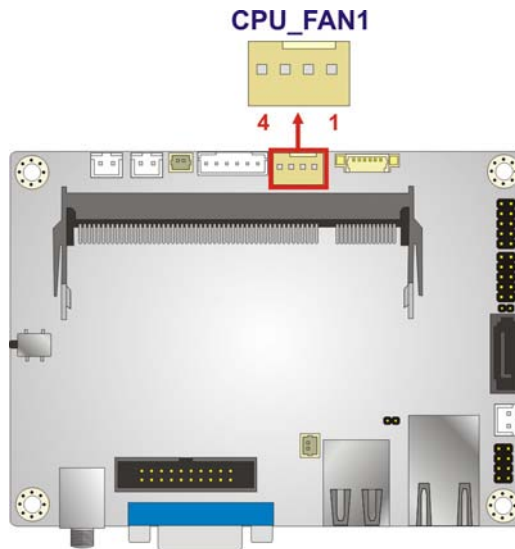

Figure 3-8: CPU Fan Connector Location
- CN Location: See **Figure 3-8**